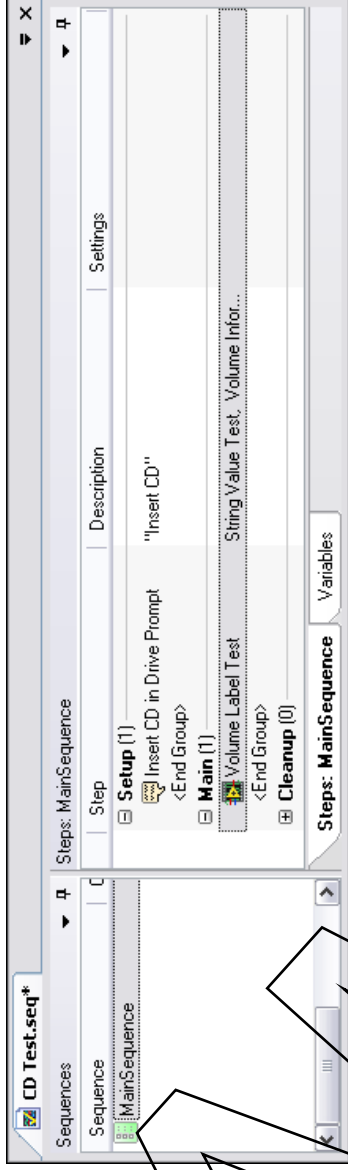

Figure 4-4. CD Test Sequence
- ❑ Verify that your sequence matches Figure 4-4.